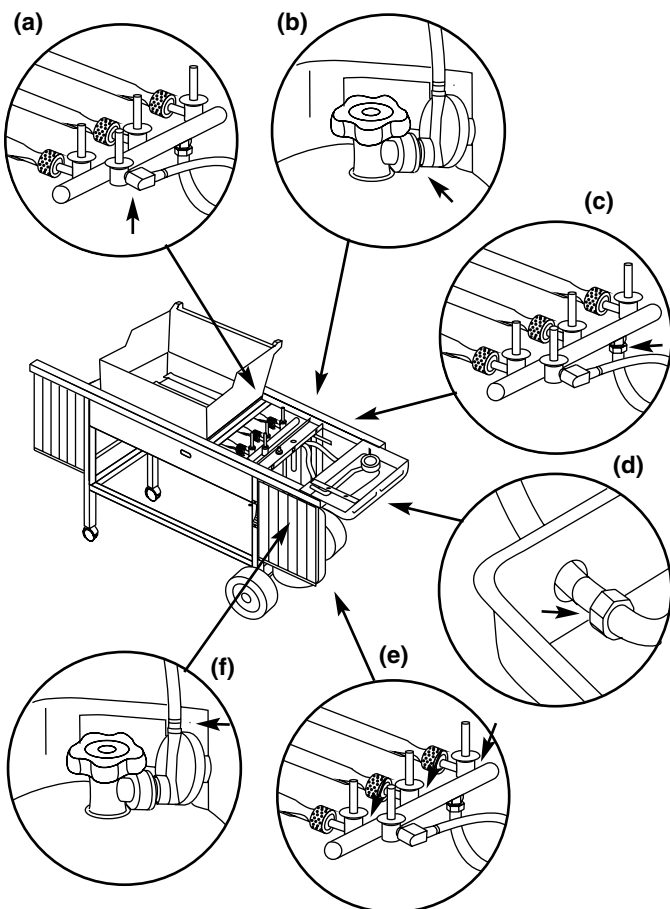

Figure 31
- a) Hose to manifold connection. Figure 31 (a).
- b) Regulator to tank connection. Figure 31 (b).
- c) Manifold to side burner hose connection. Figure 31 (c).
- d) Side burner hose to side burner connection. Figure 31 (d).
- e) Valves to manifold connections. Figure 31 (e).
- f) Hose to regulator connection. Figure 31 (f).